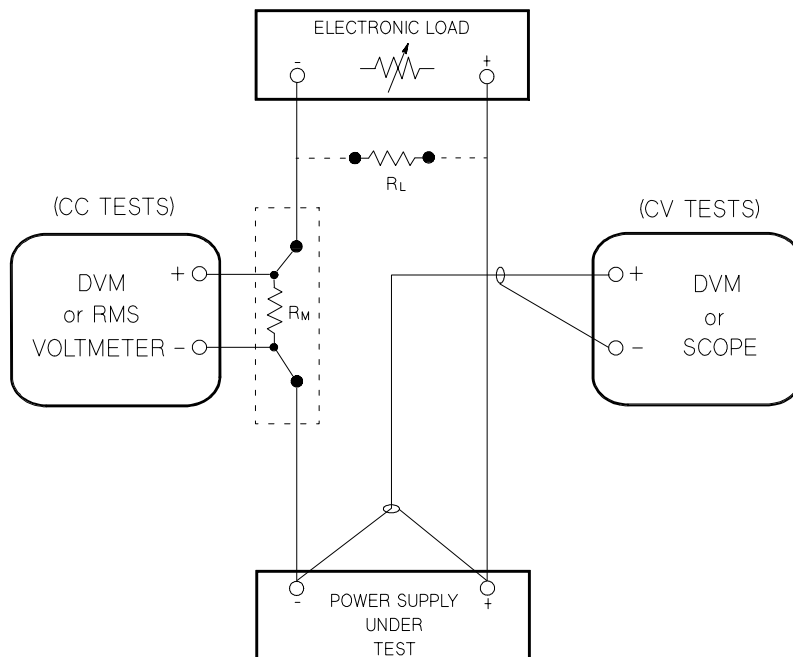

Figure 3-1. Performance Verification Test Setup
To eliminate output current measurement error caused by the voltage drops in the leads and connections, connect the current monitoring resistor between the (-) output terminal and the load as a four-terminal device. Connect the current-monitoring leads inside the load-lead connections directly at the monitoring points on the resistor element (see R_M in Figure 3-1).
- 1 Turn off the power supply and connect a digital voltmeter between the (+) and (-) terminals of the output to be tested as shown in Figure 3-1.
- 4 Operate the electronic load in open mode (input off). Record the output voltage reading on the digital voltmeter again. The difference between the digital voltmeter readings in steps (3) and (4) is the CV load regulation. The difference of the readings should be within the limit of 5mV.
- 6 Adjust the autotransformer to high line voltage (127 Vac for nominal 115 Vac, 110 Vac for nominal 100 Vac, or 253 Vac for nominal 230 Vac). Record the voltage reading on the digital voltmeter. The difference between the digital voltmeter readings in steps (5) and (6) is the CV line regulation. The difference of the readings should be within the limit of 5mV.
- 1 Turn off the power supply and connect the output to be tested as shown in Figure 3-1 to an oscilloscope (ac coupled) between (+) and (-) terminals. Set the oscilloscope to AC mode and bandwidth limit to 20 MHz. Connect a resistive load (7.5 Ω) as shown in Figure 3-1.
- 1 Turn off the power supply and connect the output to be tested as shown in Figure 3-1 with an oscilloscope. Operate the electronic load in constant current mode.